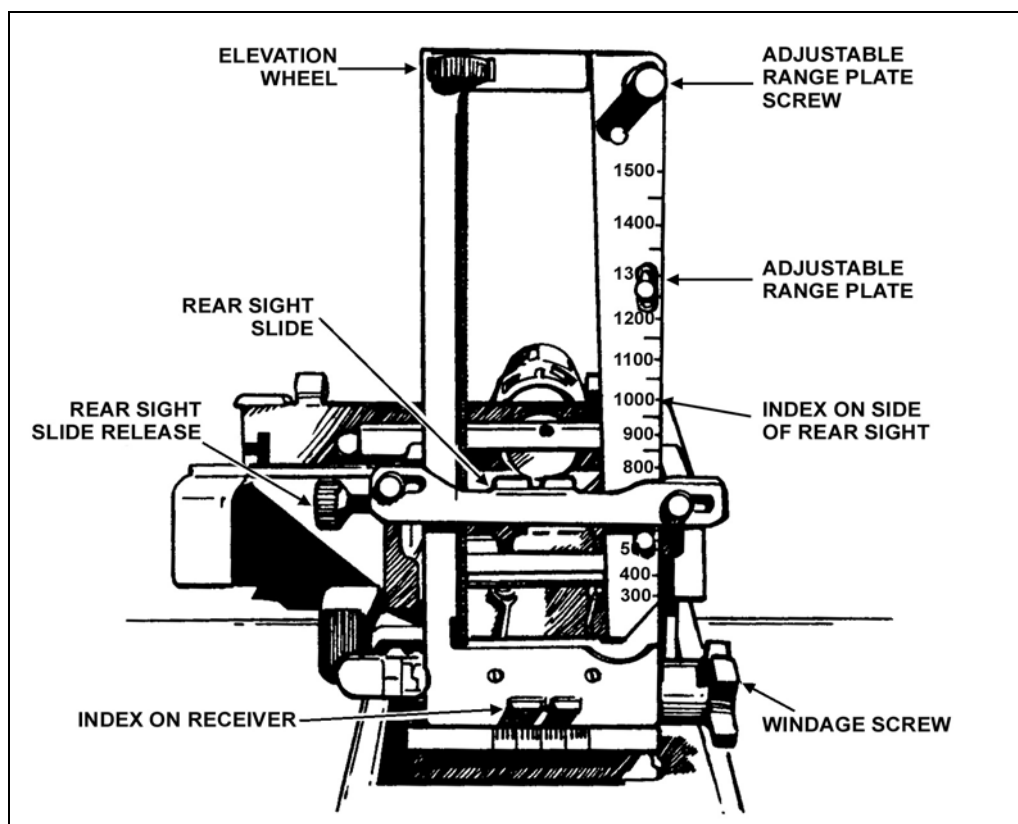

Figure 1-4. Rear sight.
g. **Leaf-Type Rear Sight (with adjustable range plate).** Is marked in 100-meter intervals from 300 to 1,500 meters. The sight is mounted on a spring dovetail base to the receiver assembly (Figure 1-4). Before moving the weapon, the gunner folds the sight forward to a horizontal position. The rear sight can be adjusted for range and windage.